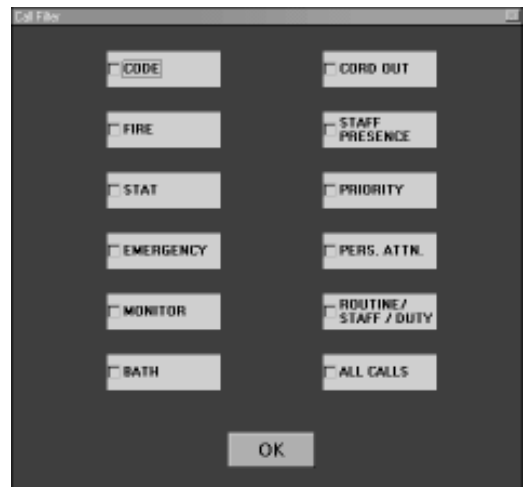

Figure 16: Call Filter Display
6. Refer to *Figure 16* for the CALL FILTER menu that will appear.